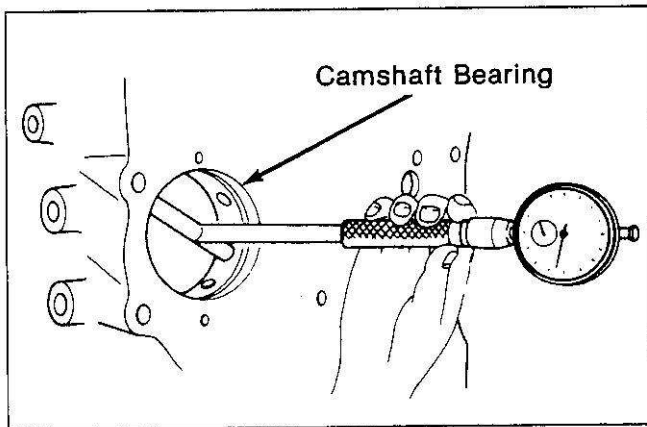
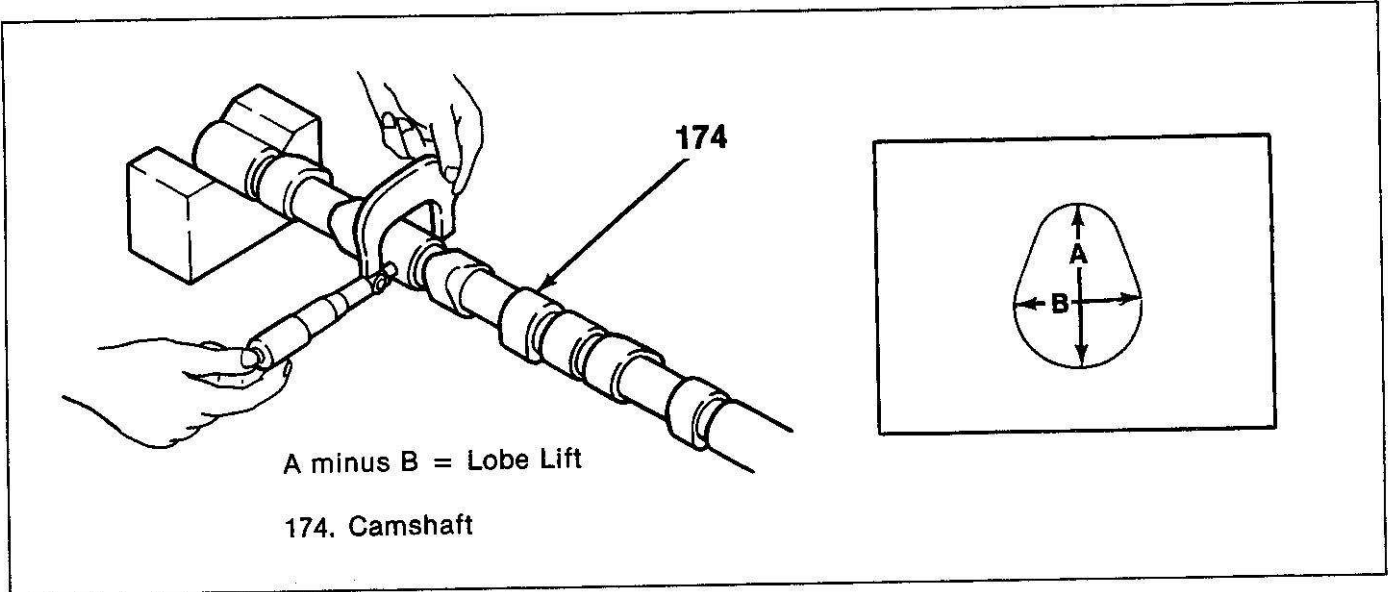

Figure 92. Measuring the Camshaft Bearing Inside Diameter
Figure 93. Measuring Camshaft Lobe Lift
5. Camshaft bearing inside diameter (figure 92). The correct measurement is 56.00–56.03 mm (2.2064–2.2076 in).
6. Camshaft (174) journal to camshaft bearing clearance.
7. Camshaft (174) lobe height (figure 93). Measure in two places, as shown. Replace the camshaft if the lobe height is less than 46.55 mm (1.832 in).
8. Camshaft (174) runout (figure 93). Replace the camshaft if the runout is more than 0.10 mm (0.0039 in).